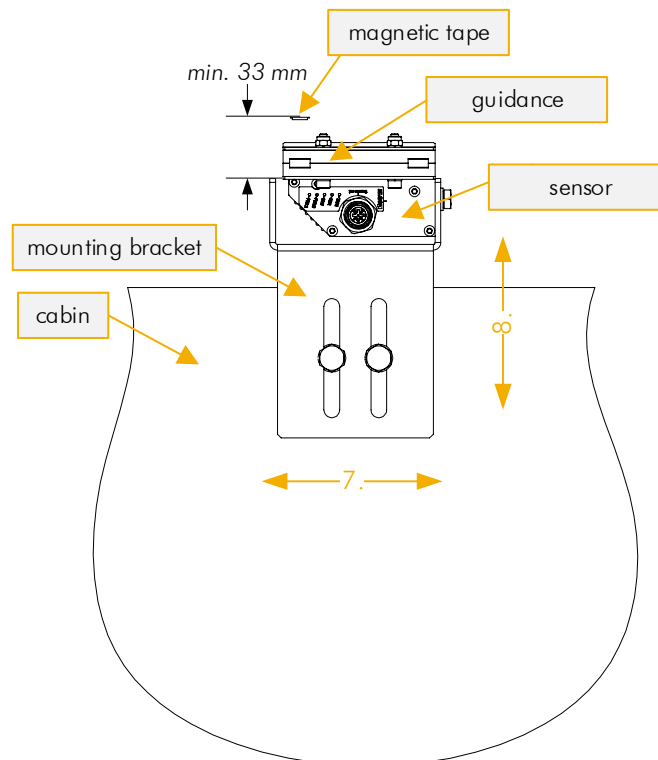

Fig. 12: Distance and orientation of the magnetic tape in relation to the sensor.
7. Adjust the position of the sensor using the tape as a reference. First align the sensor and magnetic tape on their centerline. (Step 7 in Fig. 12).